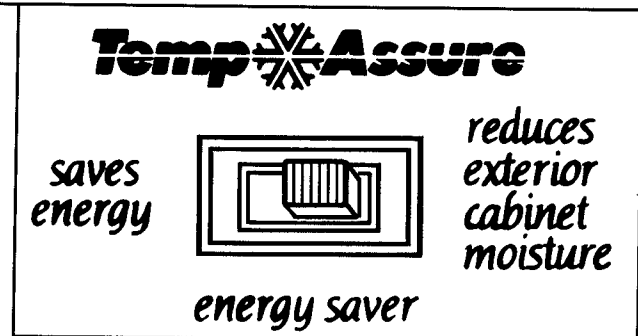

Figure 54
- 1. Set this control in the "reduces exterior cabinet moisture," position for high humidity. See Figure 54.